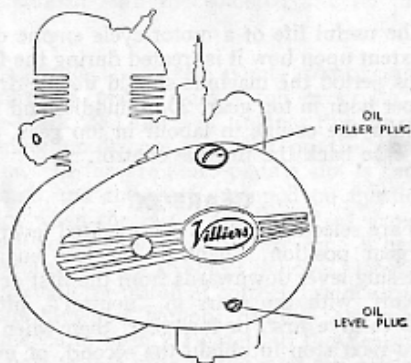

FIG. 1.
**Chaincase.** Remove filler plug on top at front, and level plug at bottom. With cycle standing vertically, pour in Castrol "D" Oil through top hole until it appears at the bottom level hole. Refit top and bottom plugs. Top up every 1,000 miles and drain by removing front cover every 5,000 miles. (See Fig. 1 below).